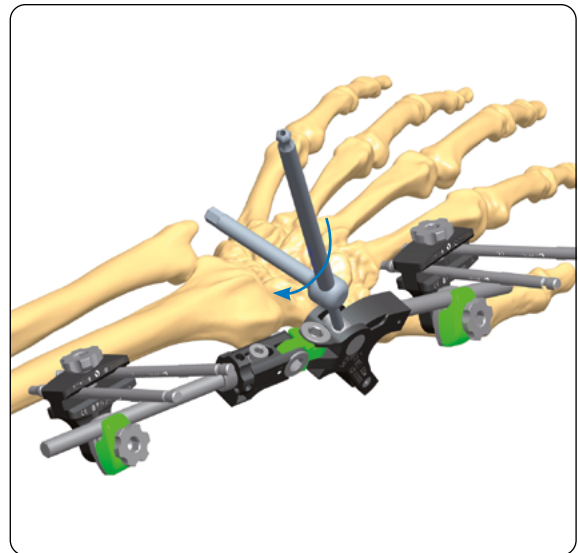

Fig. 23
- Check the joint movement by loosening the nut of the the arch and, if the movement is correct, lock the Wrist Module in neutral position (Fig. 23)